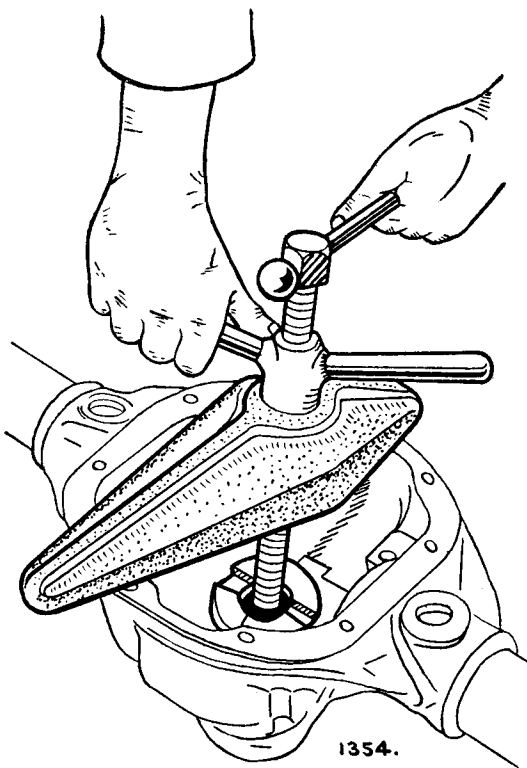

Fig. 8. Removal of the inner bearing cup.
- (1) Remove the pinion nut and washer.
- (2) Withdraw the universal joint companion flange with a suitable puller.
- (3) **PRESS** the pinion out of the outer bearing. It is important that the pinion should be pressed and not driven out to prevent damage to the outer bearing. The pinion, having been pressed from its outer bearing, may now be removed from the gear carrier housing. Note : Keep all shims intact.
- (4) Remove the pinion oil seal together with the oil slinger and outer bearing cone.
- (5) Examine the outer bearing for wear and, if replacement is required, extract the bearing cup, using Tool No. SL.12 shown in Fig. 8.
- (6) Remove the pinion inner bearing cup, as shown in Fig. 8, using Tool No. SL.12 if the bearing requires replacement or adjustment of the pinion setting is to be undertaken. Take care of the shims fitted between the bearing cup and the housing abutment face.